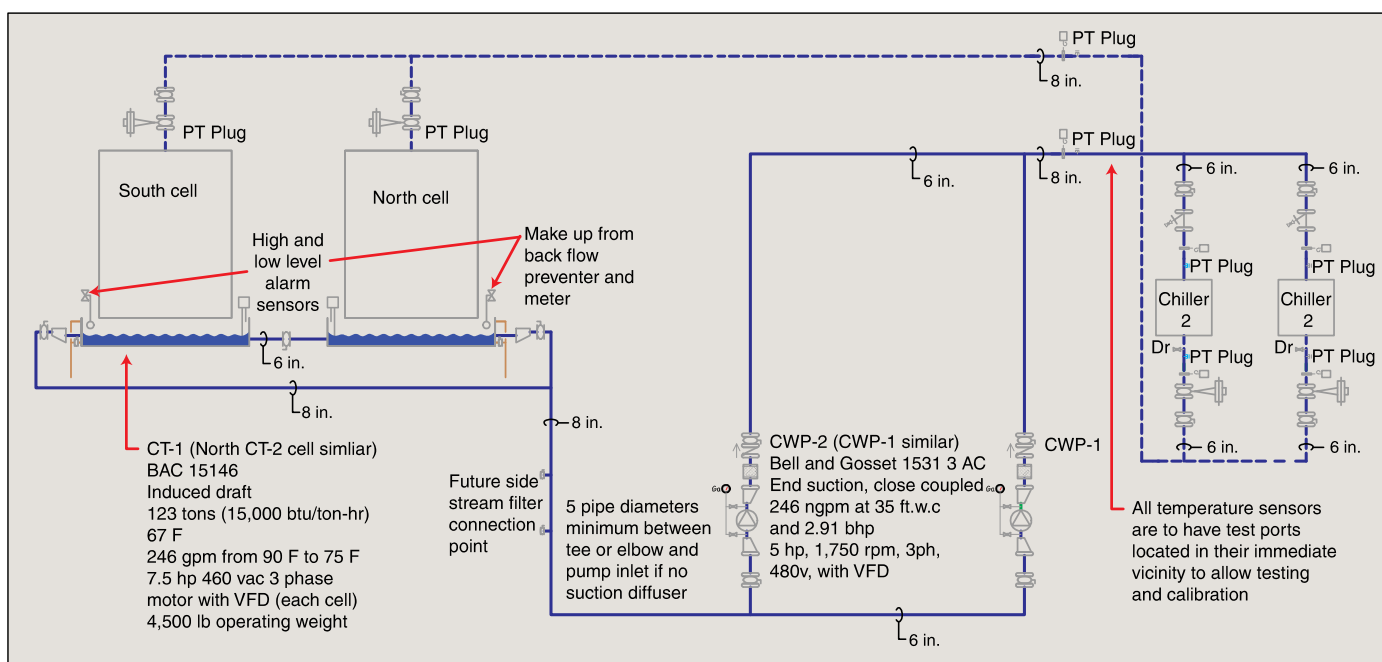

Figure 4: The system diagram for the library cooling towers
Source: ASHRAE Handbook of Fundamentals, 2001, Figure 4, page 35.7
2. If a check valve was not holding on one of the parallel pumps serving the towers (see Figure 4), then that could cause a basin overflow problem because discharge water from the operating pump would tend to recirculate through the inactive pump and pressurize the line leaving the cold basin. In addition, when the pumps both shut down, water that would normally be trapped in the piping above the basin level would drain back into the basin through the leaking check valve, causing it to overflow.